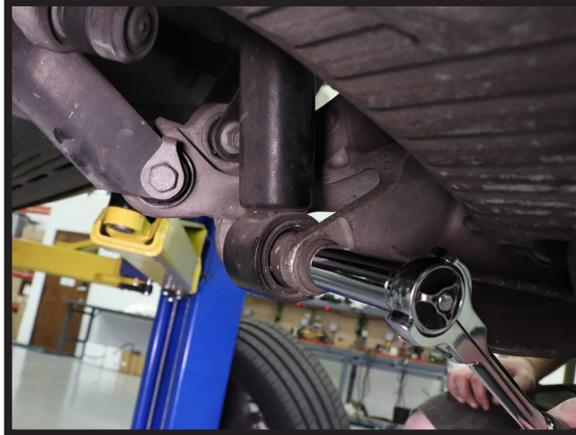

FIGURE 4
7. REMOVE THE LOWER SHOCK MOUNT BOLT. (FIGURE 4)